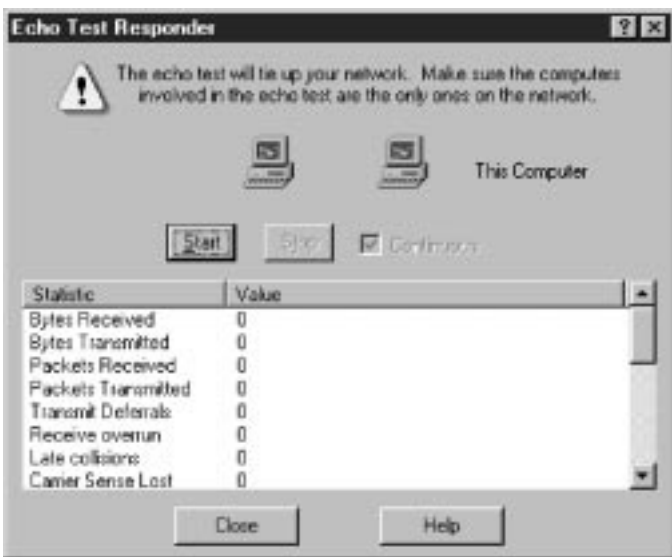
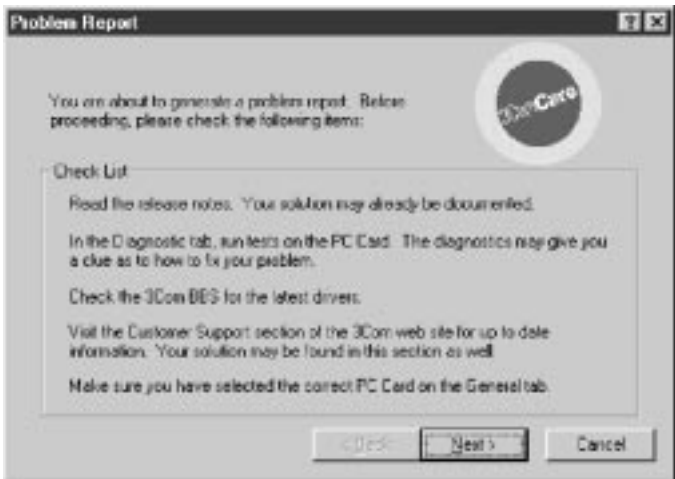

Figure 3-5 Echo Test Responder Screen
Figure 3-7 Problem Report Main Screen
The Echo Test Responder screen (Figure 3-5) appears on the responding computer.
The statistics for the test appear in the statistics window, as shown in Figure 3-5.
- 1 Click *Problem Report* on the support screen shown in Figure 3-5 to access the first problem report screen (Figure 3-7).